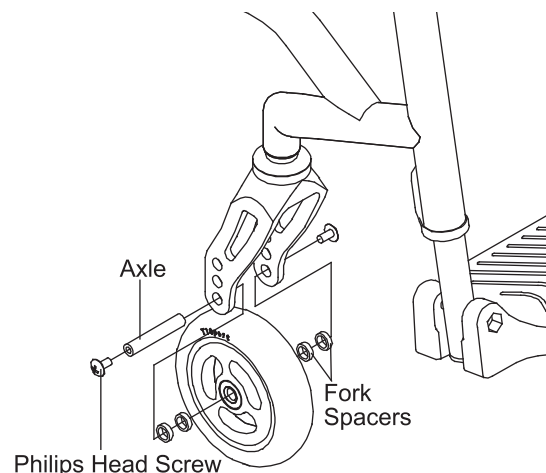

Figure 84
1. Remove the two Phillips head screws and axle that secure the front caster to the fork. **Note:** It will be necessary to use one Phillips head screw driver to hold one screw in place and a second screw driver to loosen the other screw. See Figure 84.